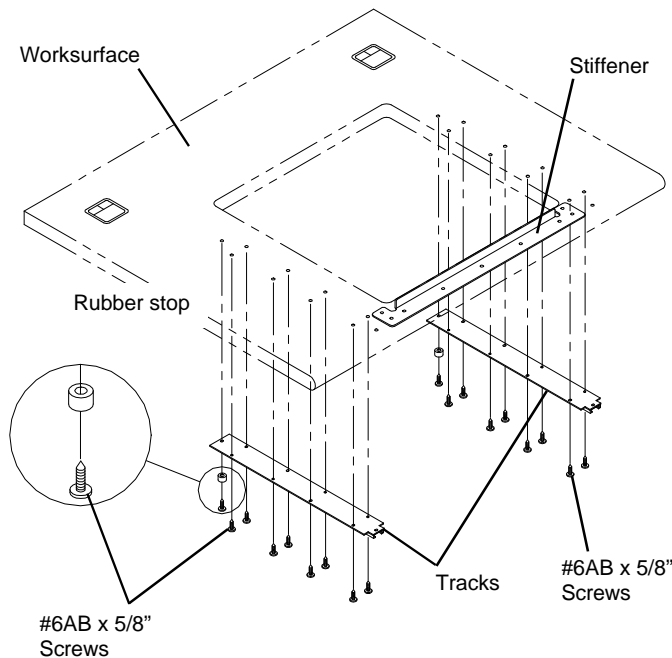

Figure 4
4. Attach the **Tracks** to the underside of the Worksurface by aligning the holes in the Tracks with the corresponding holes in the Worksurface (or stiffener on a 30" Linx Worksurface) and securing with the #6AB x 5/8" screws provided. **Note:** One end of each Track is painted black; this end must be to the front of the Worksurface. See **Figure 4**.